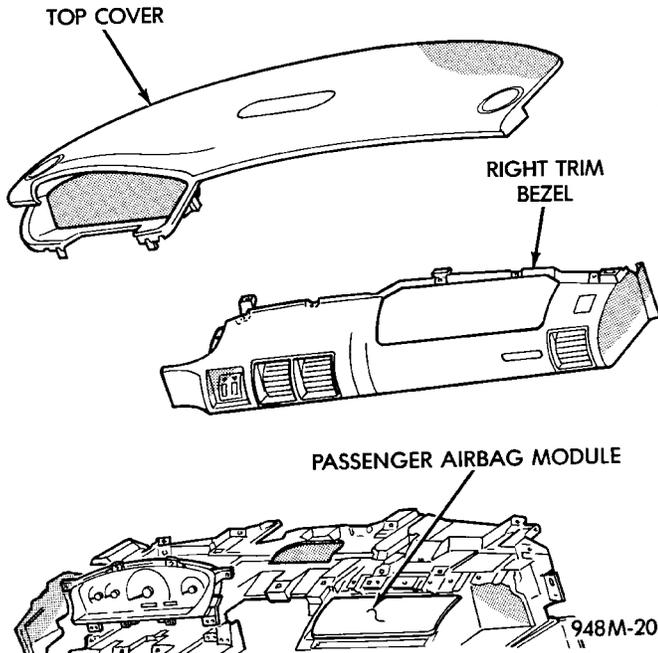
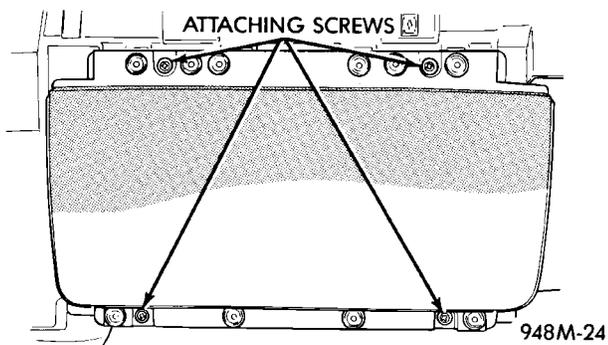
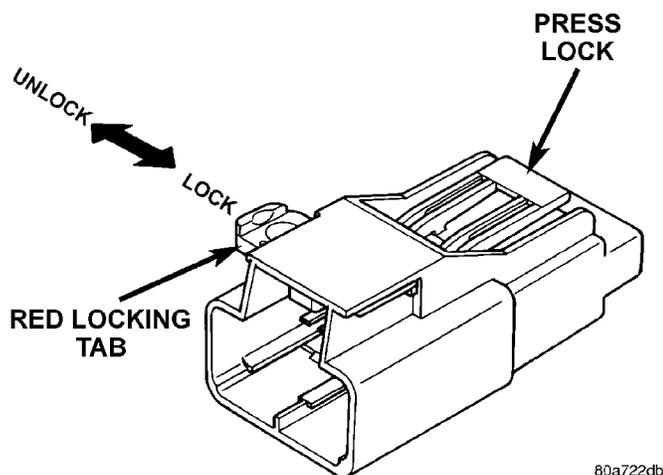

Fig. 23 Instrument Panel
Fig. 24 Passenger Airbag Module
Fig. 25 Airbag Module Connector
(1) Disconnect and isolate the battery negative cable.
(2) Remove instrument panel top cover (Fig. 23).
(3) Remove instrument panel right trim bezel.
(4) Open glove box and push the sides inward allowing the door bumper to pass and box to open.
(5) Remove the four trim screws which attach the Passenger Airbag Module to the top instrument panel (Fig. 24).
(6) Remove two module attaching nuts from the support structure.
(7) Lift module up until the wire connector is visible and disconnect the 4-way wire connector from module. Unlock the red locking tab and compress lock to release the connector (Fig. 25).
- (1) Disconnect and isolate the battery negative cable.
- (2) Roll/fold airbag towards instrument panel.
- (3) Close door over folded airbag and tape door closed.
- (4) Remove instrument panel top cover (Fig. 23).
- (5) Remove instrument panel right trim panel.
- (6) Open glove box and push the sides inward allowing the door bumper to pass and box to open.
- (7) Remove the four trim screws which attach the module to the top instrument panel (Fig. 24).
- (8) Remove two module attaching nuts from the support structure.
- (9) Lift module up until the wire connector is visible and disconnect the 4-way wire connector from module. Unlock the red locking tab and compress lock to release the connector.